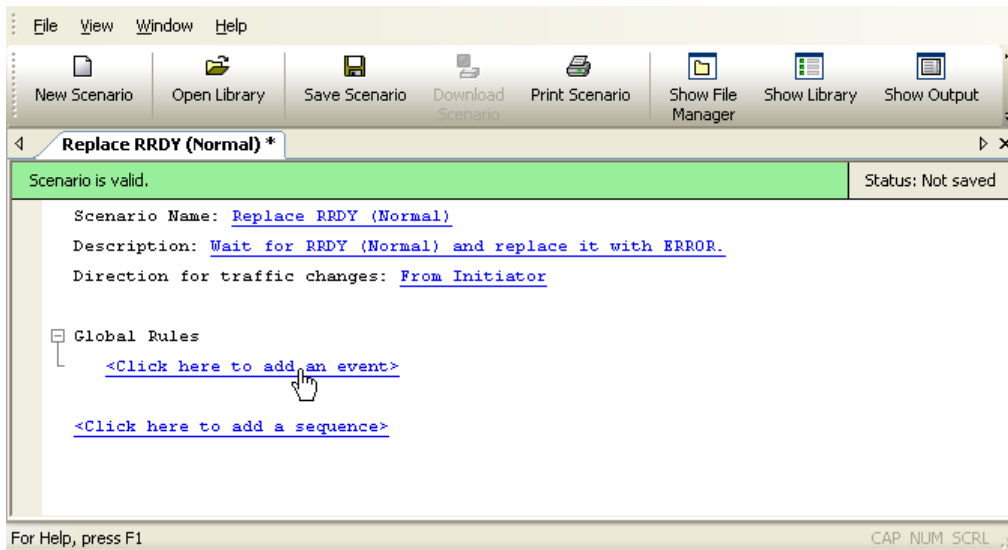

Figure 5.11 Example 2: Entering the Event
Step 2 In the Global Rules area, click on the prompt to **add an event** (Figure 5.11). This brings up the Event dialog box.